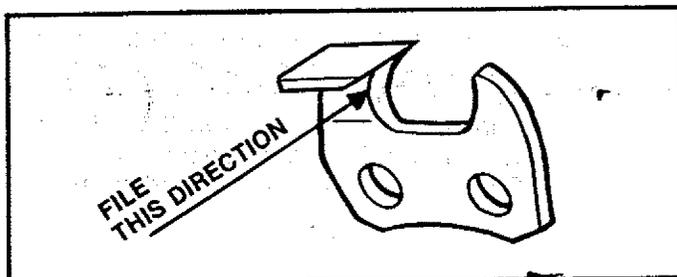

Figure 38
- File from inside toward outside of cutter, straight across, in one direction only. Use 2 or 3 strokes per cutting edge. Figure 38.